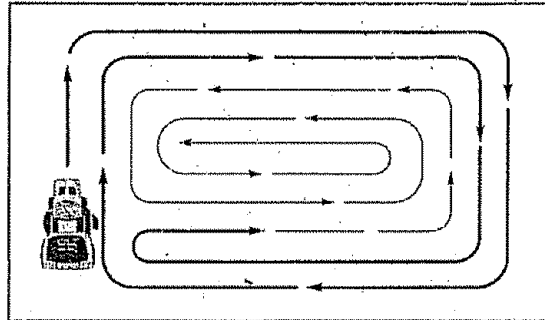

FIG. 11
- When mowing large areas, start by turning to the right so that clippings will discharge away from shrubs, fences, driveways, etc. After one or two rounds, mow in the opposite direction making left hand turns until finished (See Fig. 11)